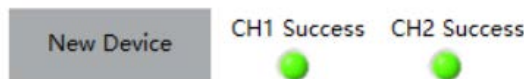

Figure 5.1.9 New Device
- Click the "New Device" button to erase the original Angle programming data inside the chip. (If the chip is programmed for the first time, skip this step to simplify the procedure and save programming time.) After the erase is complete, the "CH1 Success" indicator turns green (Figure 5.1.9).